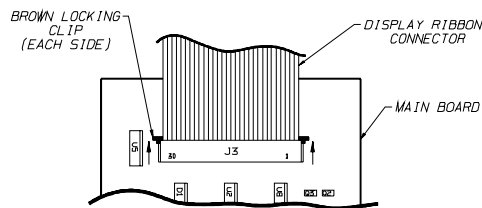

Figure 3-2.
8. Disconnect the white ribbon connector from the main board socket by CAREFULLY lifting up the brown locking tabs until they stop (FIGURE 3-2).